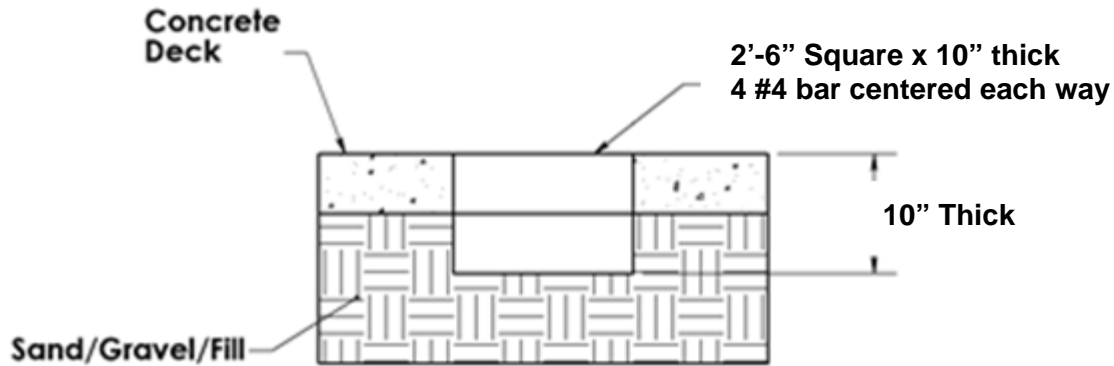

Figure 1
- Use a concrete cutting saw, cut the square out of the existing concrete deck. Using a heavy/sledge hammer to break the cut section of concrete – remove the section of concrete from the deck. See Figure 1, below.